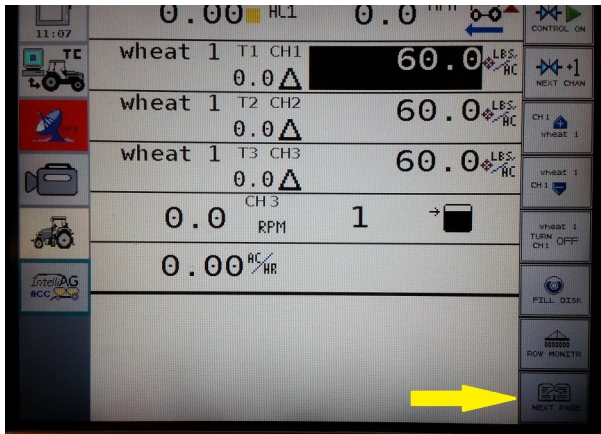

Figure 42
Step 2. Select **Next Page** (Figure 42)